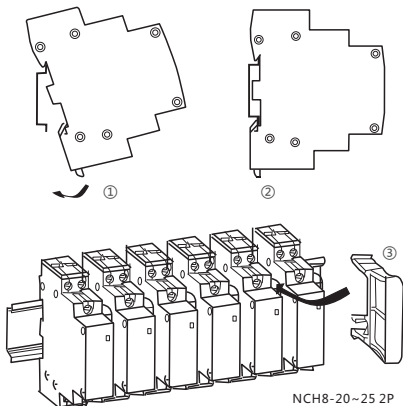

Figure 3 NCH8 installation diagram
2) Installation method: use TH35-7.5 steel mounting rail, see Figure 3 below.